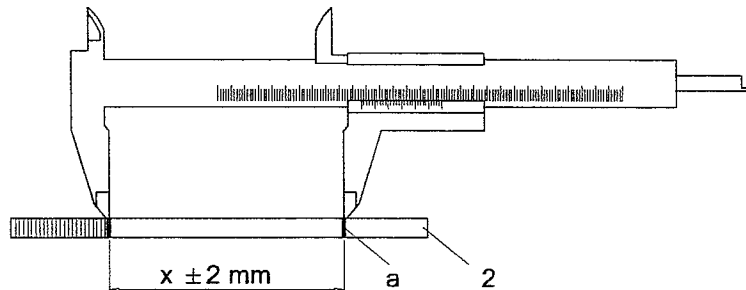

Figure 10.2.1.1–3: Distance "x"
- 7) Measure the distance "x" on the dipstick, see figure 10.2.1.1–3 "Distance "x"".